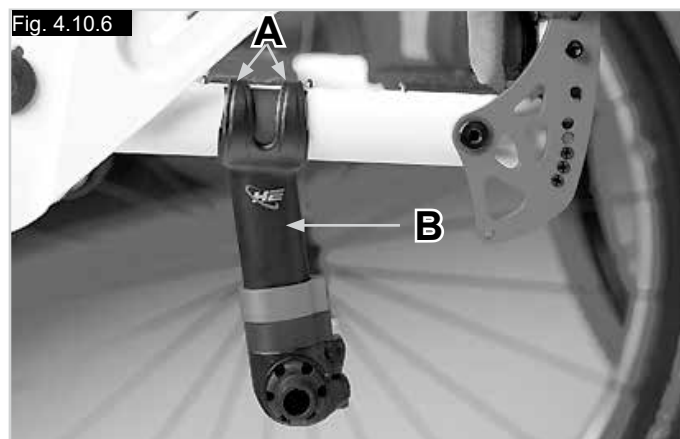

Fig. 4.10.6
Remove the rear wheels. Undo both Allen screws (A) on the top of the axle stem (B) on both sides of the wheelchair, (Fig. 4.10.6). Then push the complete unit out of the axle and push both axles stems forwards on the frame, (in terms of the direction of travel), for a more active COG, or backwards for a more passive, stable COG. Then re-tighten the screws (A) on both sides to a torque of 5 Nm. Now adjust the side guards and brakes to the new wheel position.